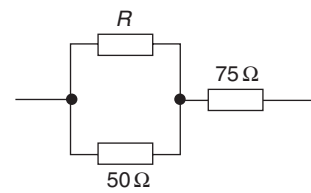

Fig. 27
29. The combined resistance of the circuit in Figure 27 is $91.7\ \Omega$. The value of resistor R is